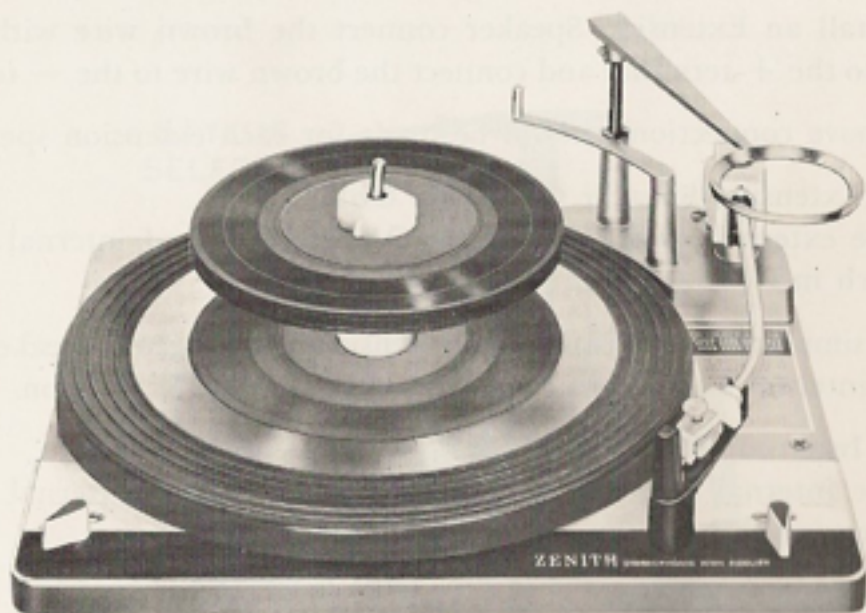

Figure 9—45 R.P.M. Spindle Installed on Changer
3. Lift and rotate the record pressure arm counterclockwise. Place 45 R.P.M. records on spindle. (See Fig. 9.)